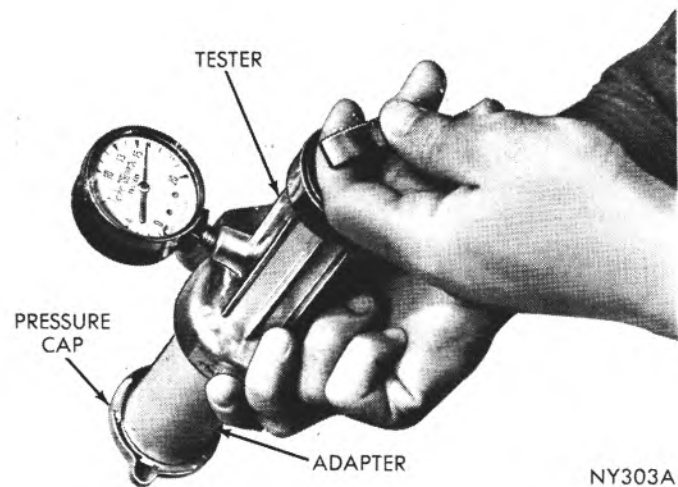

Fig. 22—Radiator Cap Tester
Test the radiator pressure cap, using Tool C-4080 (Fig. 22). Before assembling adapter and radiator pressure cap to the pump, dip radiator cap and both ends of adapter into clean water to assure a tight seal.
Hold the assembled tester in a vertical position with the radiator cap downward, as shown in Figure 22. Stroke the tester pump plunger until the gauge indicates the pressure cap is relieving pressure. It must relieve at a pressure between 14 to 17 psi. If within these specifications, reinstall on the radiator. **These test specifications are for caps tested at average altitudes. In high altitudes, the test specifications are lowered about one (1) psi for each 2,000 feet above sea level.**